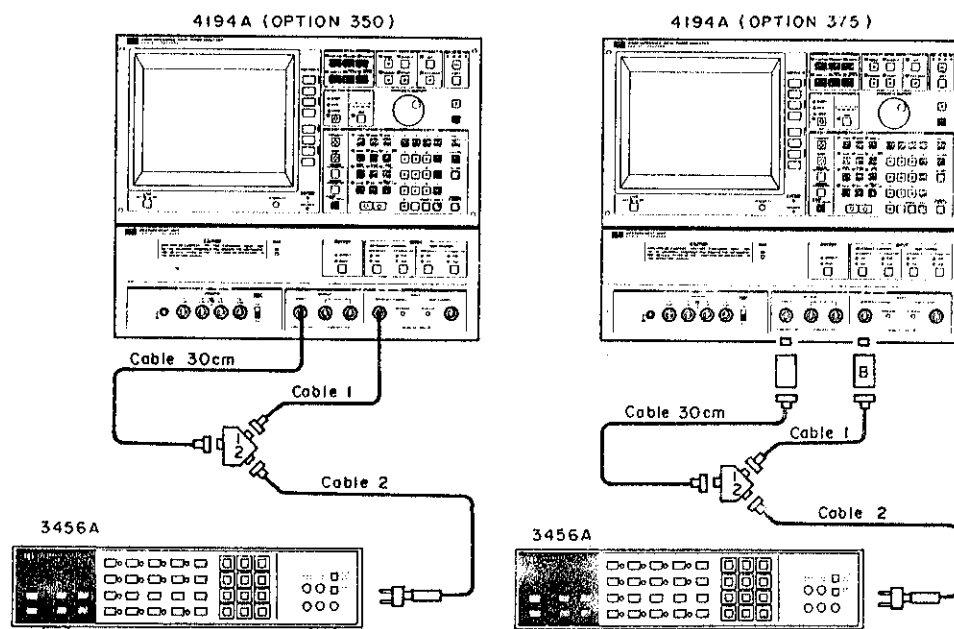

Figure 4-15. Amplitude Measurement Accuracy Test Setup 1
** Be sure to use cables 1 (30cm) and 2 (61cm): see Figure 4-15.
1. Set up the equipment as shown in Figure 4-15.